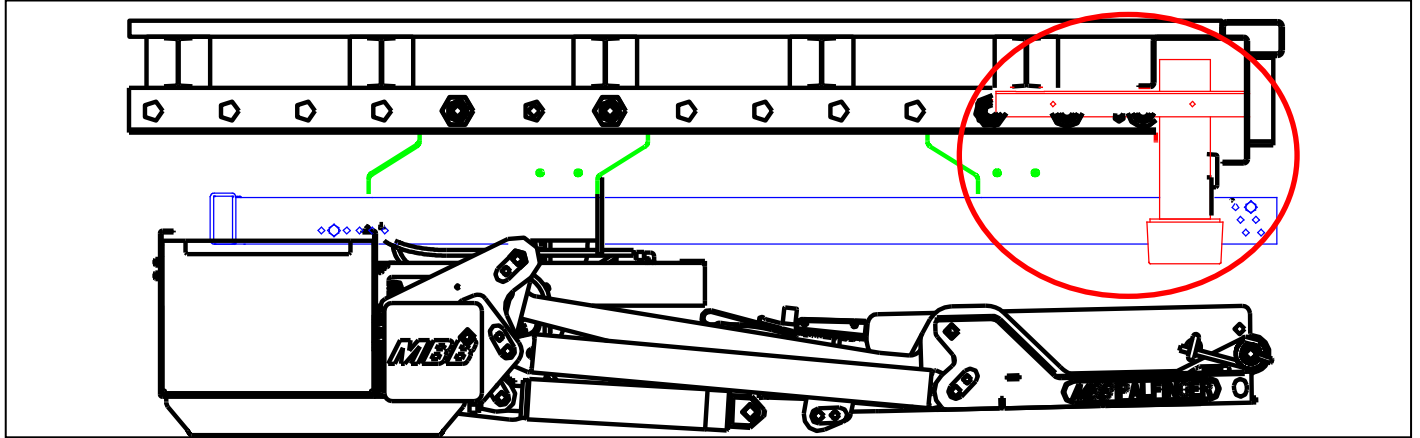

Figure 15 Installation of up-stops
- The up stops must be mounted rearward enough so that they do not make contact with a tube mounted aux battery box when the gate is slid out (Figure 15 right picutre)
- The main pin and lift cylinder hoses must clear the up stop when the gate is slid out (Figure 15 left picutre)